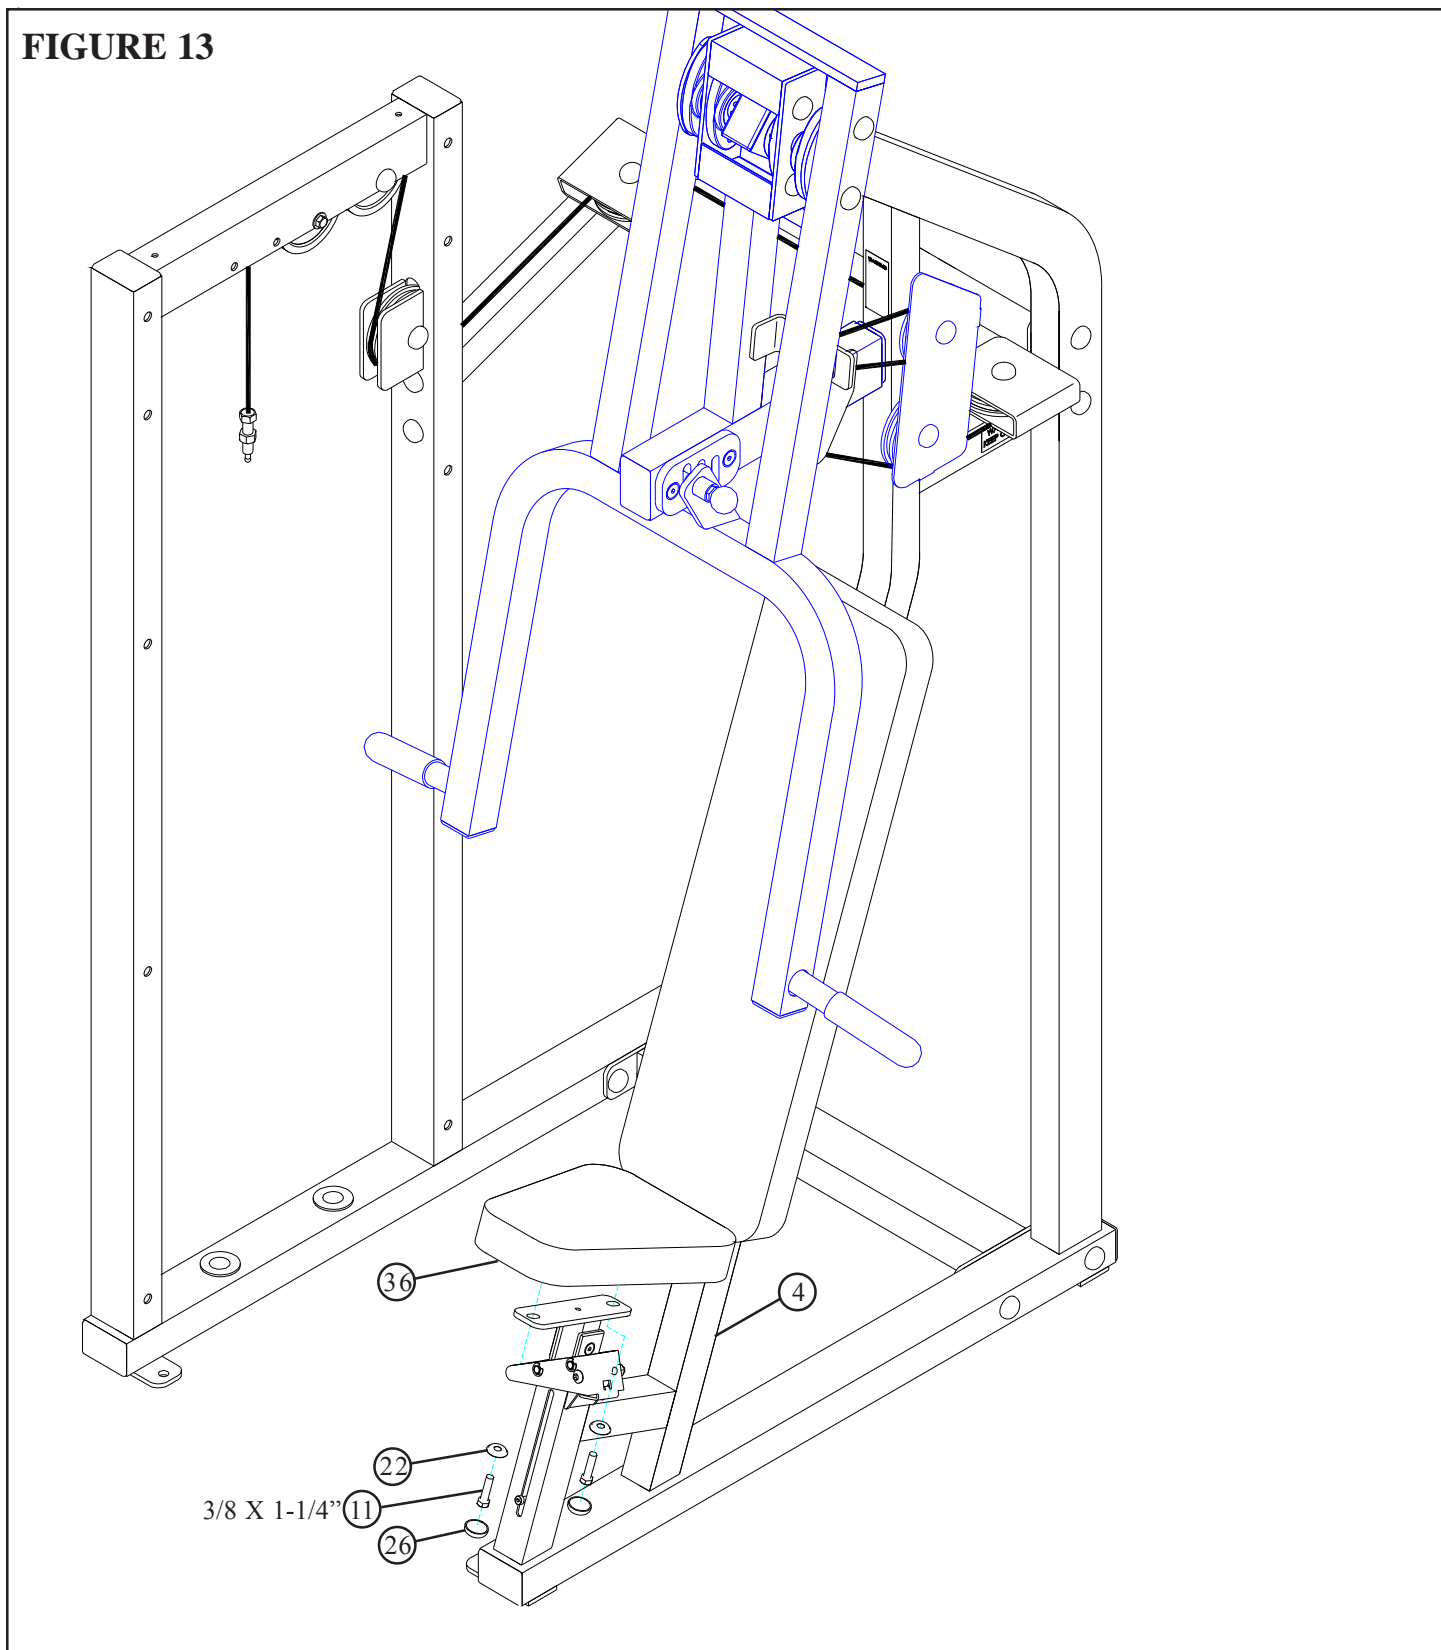

**FIGURE 12**
- **SECURELY** assemble the BACK PAD (35) to the BOOM ASSEMBLY (4) using two RH CAPS (39), two 3/8 X 3" BOLTS (14) and two 3/8" RH WASHERS (22) as shown in FIGURE 12.